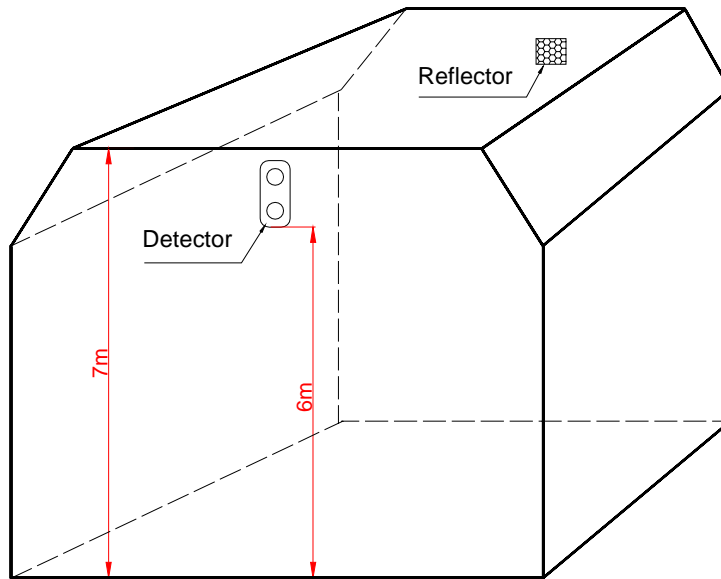

Fig. 5 Mounting
- 2) When space height is between 5m and 8m, the detector and reflector should be mounted on the two facing walls 0.5m to 1m from the ceiling, see Fig. 5.